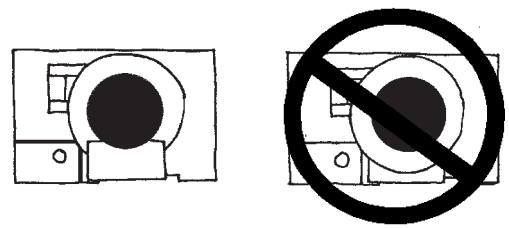

FIGURE 6.
8. Close drain valve by pushing in the large black knob and locking it into place and completely refill fryer. Refer to Figure 6.
NOTE: The drain valve handle controls fryer's Main Power Switch. **If drain valve is not fully closed and locked, fryer will not operate.** See Figure 6.